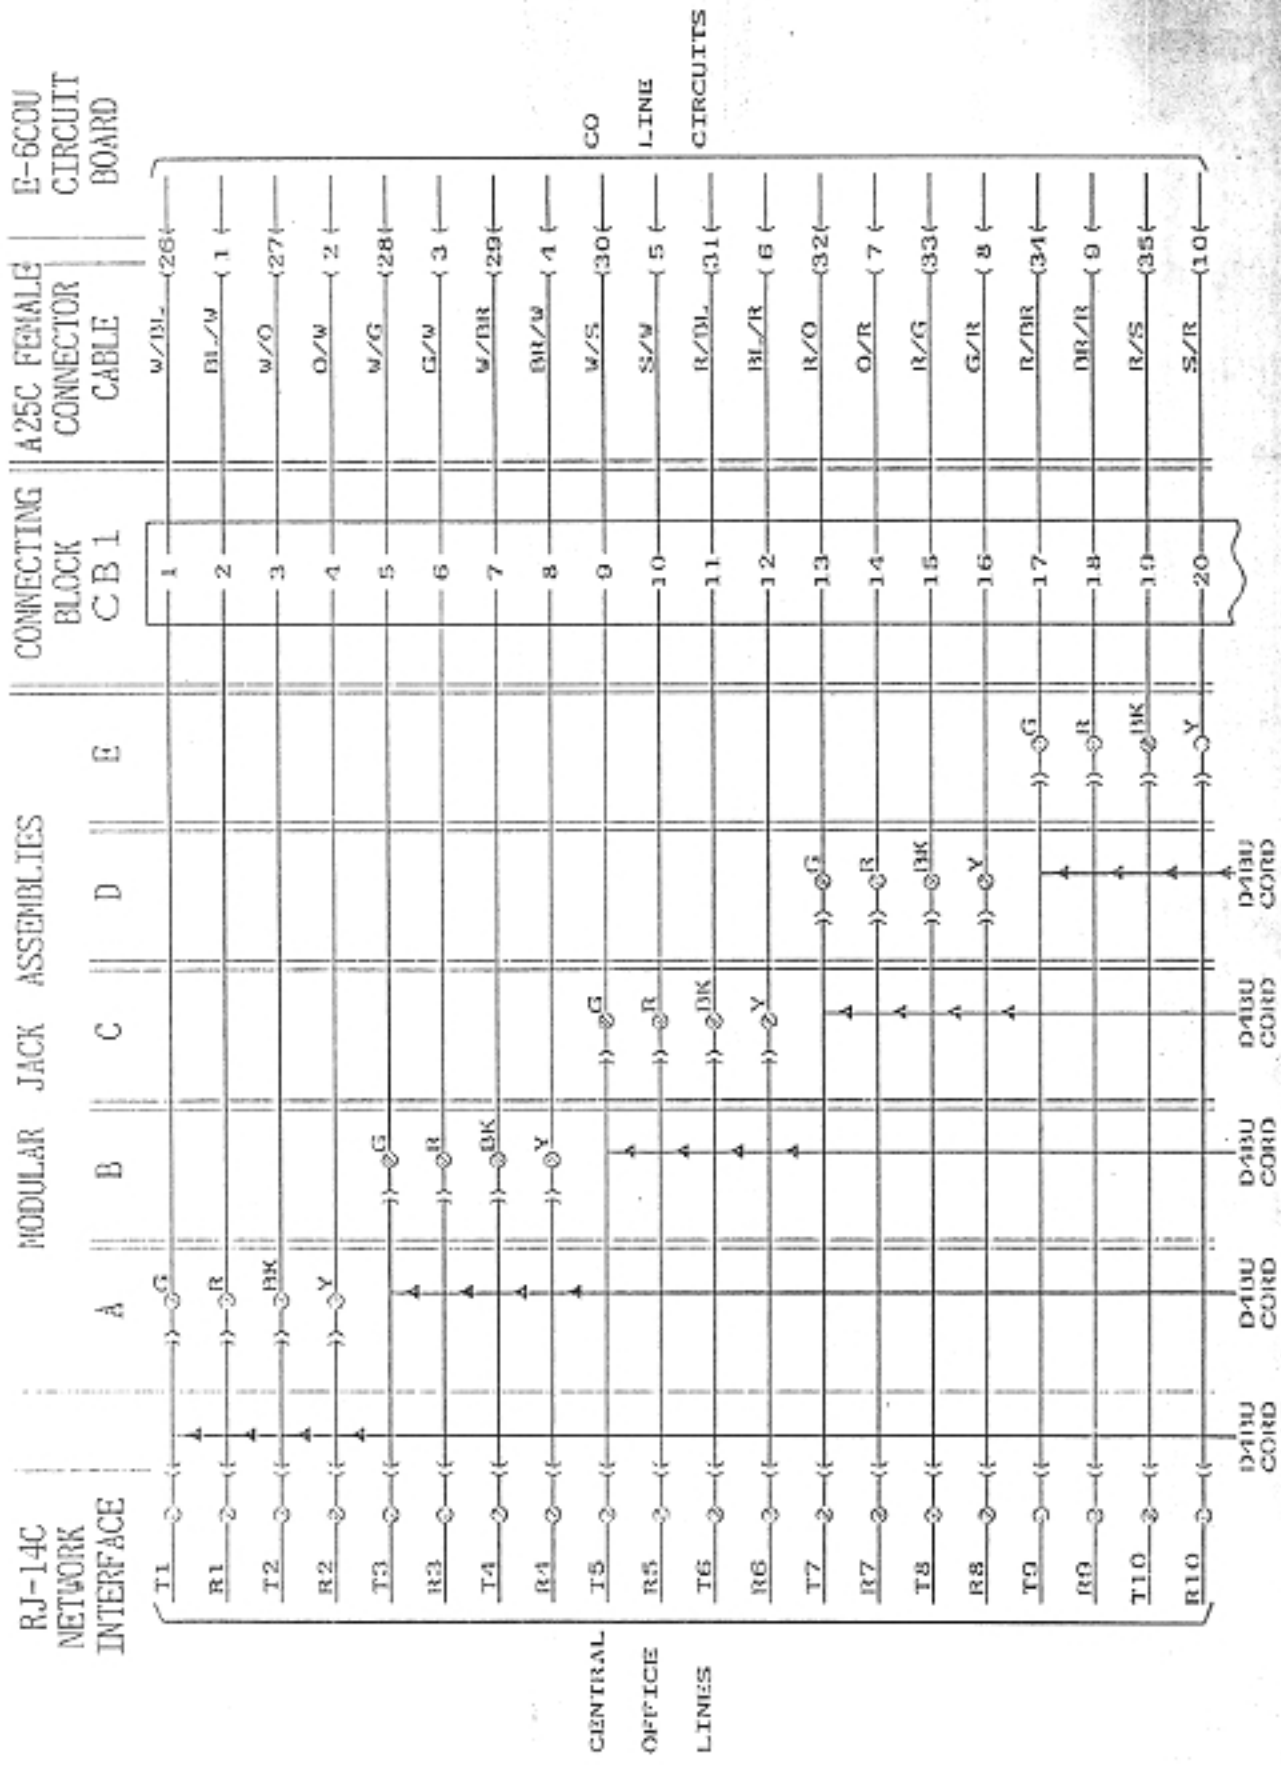

Fig. 1-1 Connections for Central Office Lines Using Five RJ-14C Network Interface
- (1) Mount the five modular jack assemblies and the connecting block CBI to the plywood back board between the KSU and RJ-14C jacks.
- (2) Run five two twisted pair cables from the modular jack assemblies of step(1) to the connecting block CBI of step(1).
- (3) Terminate one end of the five two twisted pair cables on the jack assemblies and the other end of them on the connecting block CBI in accordance with Fig.1-1
(4) Run the A25C connector cable from the KSU to the connecting block CBI of step(1).
(5) Terminate the A25C connector cable on the connecting block CBI in accordance with Fig.1-1 and Table B.
(6) Take the D4BU cords and connect the modular jacks of step(1) to the RJ-14C jacks.
(7) Plug the A25C connector cable into the connector labeled "CO1-CO10" in the lefthand of the KSU.